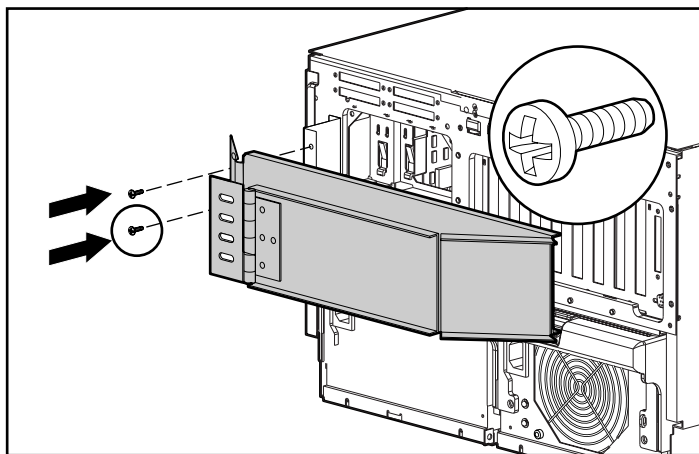

Figure 3-15. Attaching the cable management arm to the cable management arm bracket
2. After you have loaded the server into the rack, attach one end of the cable management arm to the server's cable management arm bracket using two M6 x 1.0-12L Phillips screws. Align the arm to the bracket as shown in Figure 3-15.